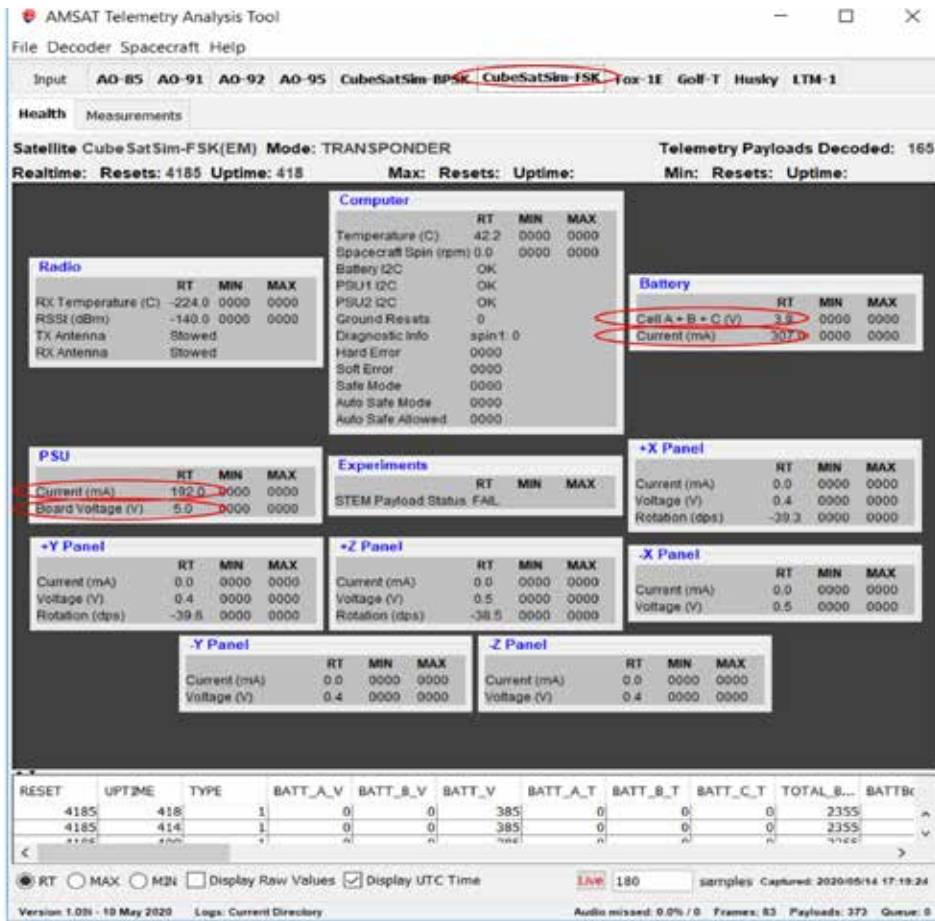

Figure 9 — FoxTelem CubeSatSim-FSK battery and power supply telemetry data.
The basic power subsystem information on the CubeSatSim is available in the CubeSatSim-FSK tab in the Health tab, after telemetry frames have been received and decoded, as shown in Figure 9. Examine the following fields: under Battery, Cell A + B + C (V) gives the voltage (3.9 V) of the battery pack, the three NiMH AAA cells in series. When you plug in the micro USB power supply to charge, the battery pack voltage will jump to over 4.0 V.
Figure 9 also shows that the battery is supplying a current of 307 mA.
As shown in Figure 9, under PSU (Power Supply), the Current (mA) gives the Electrical Power Subsystem (EPS) bus current (192 mA), and the Board Voltage (V) gives the EPS bus voltage (5.0 V).